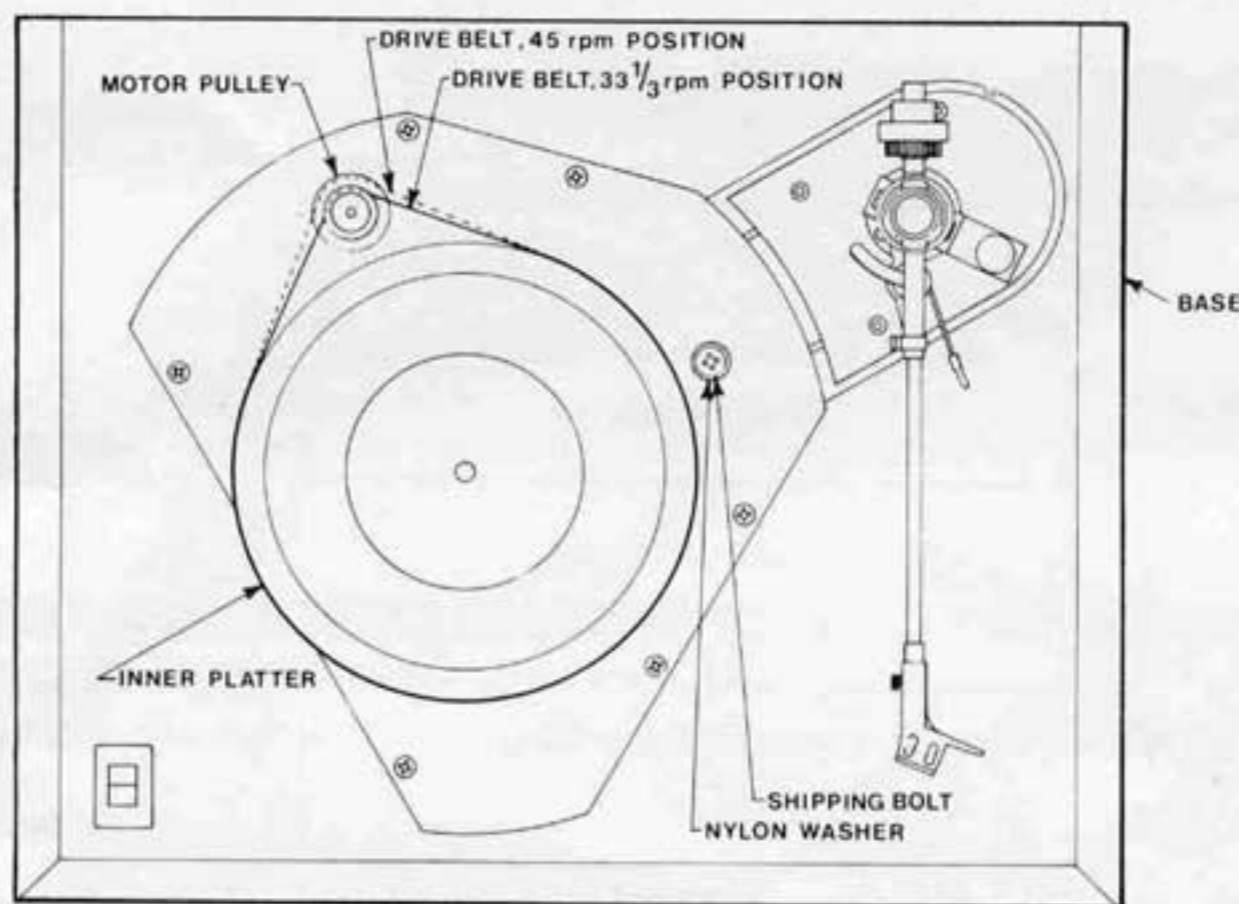

FIG. 2
- (1) Place your turntable on the surface upon which it is to be used. This surface should be firm and level — check for levelness with a spirit level (not provided) on the top of the turntable base and shim the unit if necessary.
- (2) Remove the three styrofoam packing pieces from under the inner platter. To do this, lift the inner platter about 2 inches — it does not have to be removed from the bearing.
- (3) Unscrew and remove the shipping bolt located on the top-plate between the inner platter and the tonearm mounting board (see fig 2). **SAVE THE BOLT AND NYLON WASHER FOR FUTURE SHIPMENT OF THE TURNTABLE.**
- (4) The belt is shipped on the inner platter. Pull it away from the platter at the point nearest the motor pulley and place it around the motor pulley, checking that the smooth side of the belt is in contact with the pulley and platter. The pulley has two driving diameters — placing the belt on the smaller one will cause the unit to run at $33\frac{1}{3}$ RPM, whilst the larger diameter gives 45 RPM. Placement of the belt is shown in fig 2.